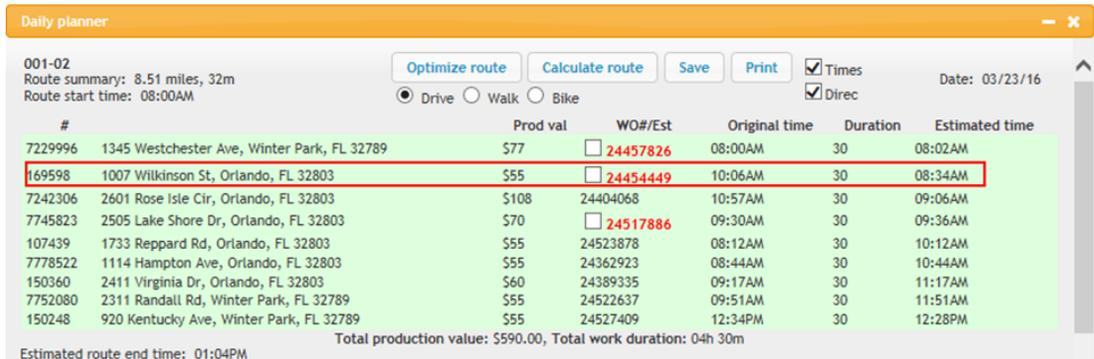

Figure 22
2. If you click Optimize Route without checking the box, the services will route **IGNORING** the confirmed appointment time. For example a 10:06AM confirmed time will still be there, but the optimizer tells the user that for the route to be optimized, 8:34AM is the best time for this appointment (Fig. 22).